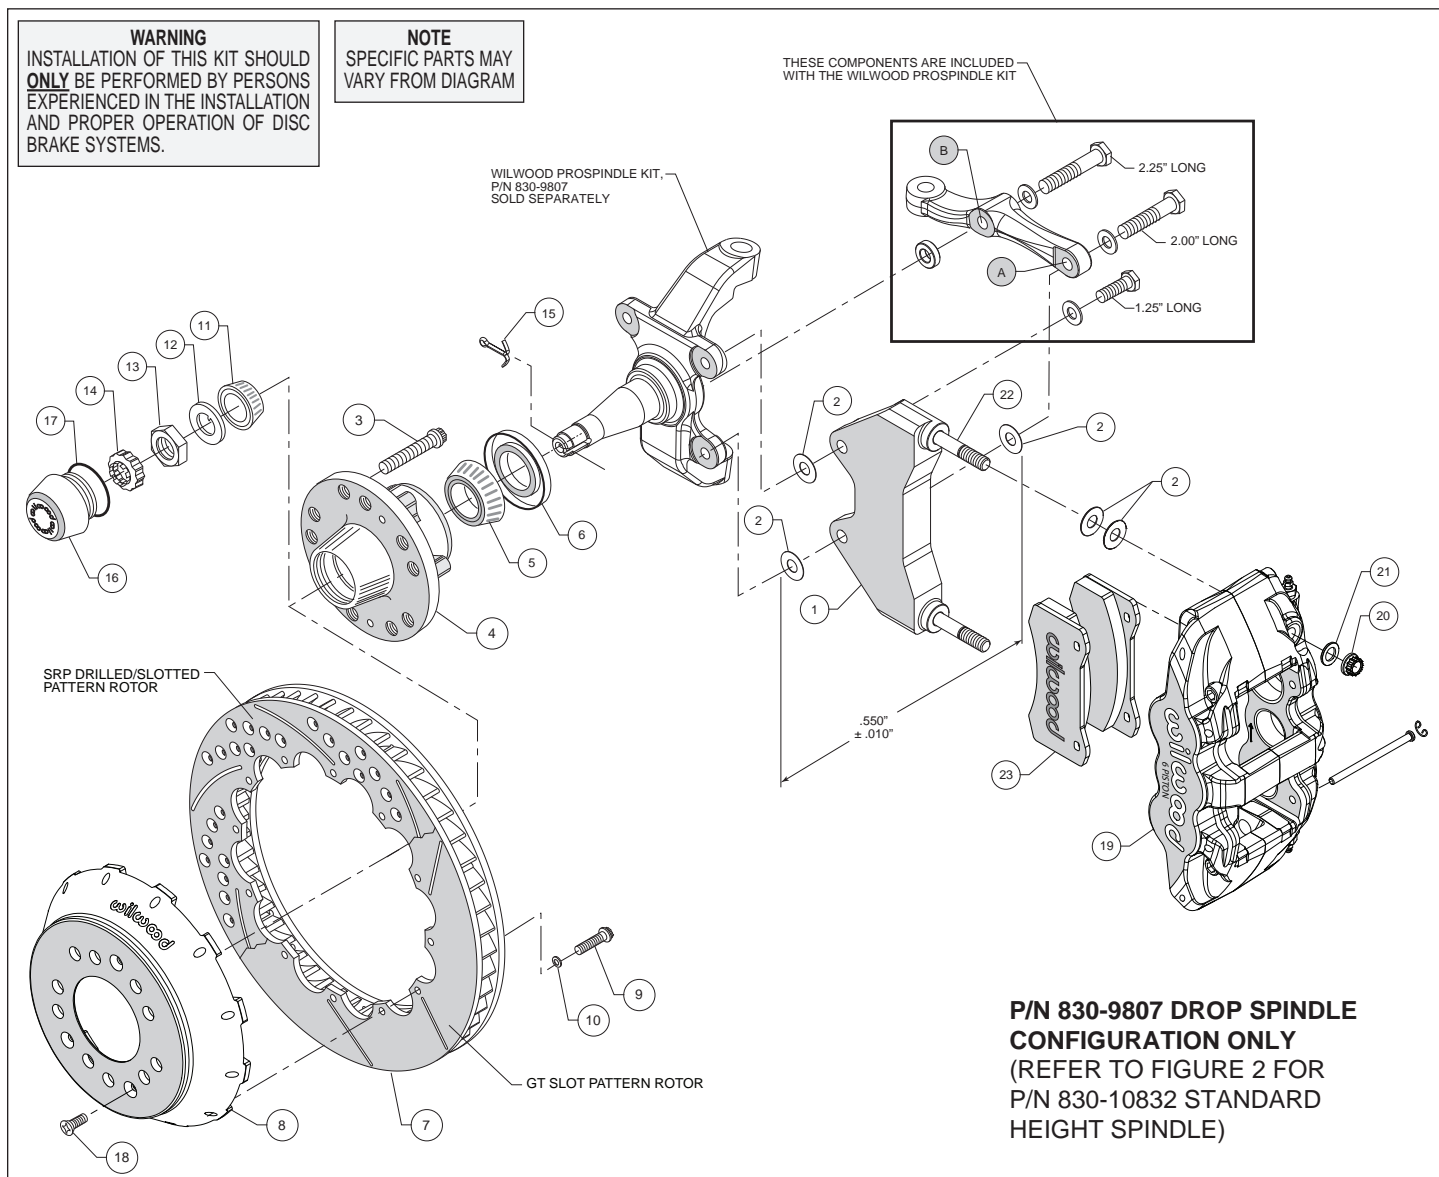
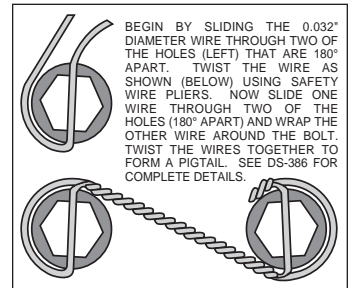

Figure 1. Installation Configuration For Drop Spindle, P/N 830-9807
Figure 4. Safety Wire Diagram
Assembly Instructions (numbers in parenthesis refer to the parts list and Figures 1 and 2 on the preceding pages):
- NOTE:** Each Wilwood ProSpindle kit includes bolts, washers, and a spacer to mount the steering arm and caliper bracket. The various bolts are identified by length in the following instructions and in Figures 1 and 2.
- Orient the bracket as shown in Figure 1 and Photo 1. Install at top spindle hole using 1.25" long bolt and .06" thick washer (from ProSpindle kit), and one .030" thick shim (2) between the bracket and spindle, Figure 1.
- Orient the steering arm, and identify the hole marked 'A', as shown in Figure 1. Install at bottom spindle hole using 2.00" long bolt, .06" thick washer (from ProSpindle kit), one .030" thick shim (2) between the steering arm and the bracket, and another .030" thick shim (2) between the bracket and spindle, Figure 1. The bracket is located between the steering arm and spindle. **NOTE:** The bracket and shim washers must add up to a total thickness of .550" \pm .010", Figure 1.
- Finish attaching the steering arm through the hole marked 'B', as shown in Figure 1. Install using 2.25" long bolt, .06" thick washer, and .25" thick spacer (all from ProSpindle kit), Figure 1.
- Pack the large inner bearing cone (5) with high temperature disc brake bearing grease (available from your local auto parts store) and install into the backside of the hub (4), Photo 4.
- Install the grease seal (6) by pressing into the backside of the hub (4), flush with the end of the hub, Photo 4.
- Orient the rotor (7) and the hat (8) as shown in Figures 1 or 2, and Photo 5. Attach rotor to hat using bolts (9) and washers (10). Using an alternating sequence, apply red *Loctite*® 271 to the threads, and torque to 155 **in-lbs**. For an added measure of security, the bolts may be safety wired using standard 0.032 inch diameter stainless steel safety wire as shown in Figure 4. Refer to Wilwood's data sheet DS-386 (available at www.wilwood.com/Pdf/DataSheets/ds386.pdf) for complete safety wire installation instructions.
- Pack the small outer bearing cone (11) with high temperature disc brake bearing grease and install into hub (4). Slide the hub assembly onto the spindle. Secure using spindle washer (12) and spindle nut (13), Photo 6. Bearing adjustment: Tighten the nut while turning the hub. When there is a slight bind on the bearings, they are seated correctly. Back the nut off about 1/6 to 1/4 of a turn, or sufficiently to allow .001" to .007" end play. **WARNING:** Failure to back off adjusting nut could cause bearing to run hot and be damaged, which could cause the wheel to lock or come off. Install spindle nut retainer (14) and cotter pin (15).
- Screw dust cap (16) into hub (4), Photo 7. Friction created by the o-ring (17) on the dust cap keeps it from unscrewing.
- Slide the hat/rotor assembly (7/8) onto the hub (4) taking care to align the small countersunk holes in the hat with the small threaded holes in the hub. **NOTE:** The hat must fit flush against the hub face or excessive rotor run out may result. Install three flat head screws (18) through the small holes in the hat (8), Photo 7, and torque to 85 **in-lb**.
- NOTE:** This kit contains distinct right and left hand calipers that must be mounted in a specific direction, as described below. Lubricate the caliper mounting studs (22) with lightweight oil. Initially place two .030" thick shims (2) on each stud as shown in Figure 1 or 2, and Photo 8. Mount the caliper (19) onto the bracket (1) using lock nuts (20) and washers (21), Figure 1 or 2. Ensure that the caliper is mounted so the largest pistons are at the rotor exit end of the caliper, in relation to the direction of rotor rotation. Temporarily tighten the lock nuts. View the rotor through the top opening of the caliper. The rotor should be centered in the caliper, Photo 9. If not, proceed as follows:
- Adjust by adding or subtracting shims (2) between the bracket and the spindle. Always use the same amount of shims on each of the two bolts between bracket and spindle.
- For the lower bracket mount bolt, if a shim was added between the bracket and spindle, then a shim must be removed between the steering arm and bracket, such that the total thickness of bracket and shims remain equal to .550 ± .010", Figure 1.
- Adjust by adding or subtracting shims (2) between the bracket and the spindle. Always use the same amount of shims on each of the two mounting bolts.
- Remove the two pad retaining pins from the caliper (19) by carefully popping out the pin retaining clips and sliding out the pins. Insert the brake pads (23) into the caliper from the bottom, Figure 1 or 2, and Photo 10. With the friction material facing the rotor, secure the brake pads in place with the pad retaining pins and clips, Photo 11. Reinstall the caliper onto the caliper mounting bracket and temporarily tighten the lock nuts. Check that the top of the brake pad is flush with the outside diameter of the rotor, Photo 12. If not, adjust by adding or subtracting shims (2) between the caliper and the bracket. After the caliper pad height is set, torque the caliper lock nuts (20) to 47 ft-lb.